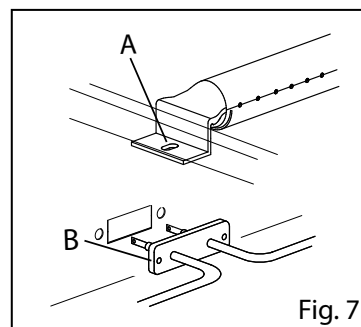

Fig. 7
- Loosen the retaining screws (Fig. 7/A)
- Loosen the retaining screws (Fig. 7/B) and disconnect the electrical connections